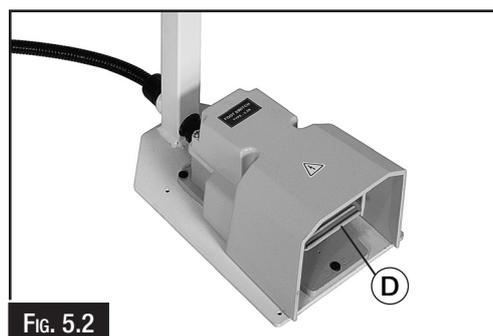

FIG. 5.2
- D. Foot Pedal:** When pressed operates the hammer action of the machine. (D in Fig. 5.2)
2. Reinsert **Pin A** (Fig. 5.2) to lock the mechanism in Rigid Mode.